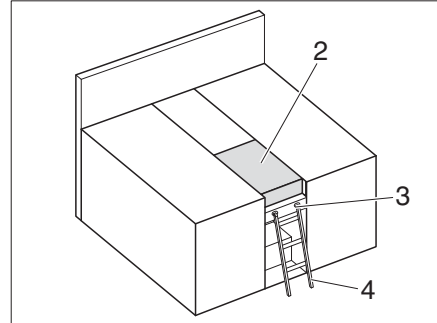

Fig. 160 Double bed
- Lay on the additional cushion (Fig. 160,2).
Access ladder Always use the access ladder (Fig. 160,4) provided as standard to reach the top bed.
Attaching: ■ Attach the access ladder (Fig. 160,4) with the rails to the holder (Fig. 160,3) on the panel.